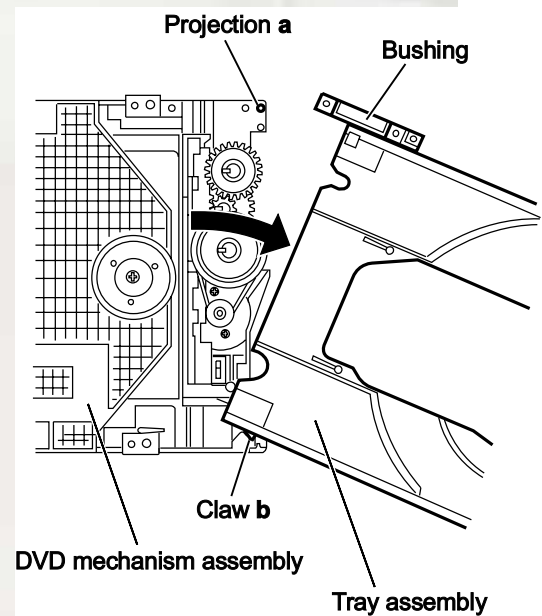

Fig.3
- (3) Remove the bushing of the tray assembly from the projection **a** on the DVD mechanism assembly and move the tray assembly in the direction of the arrow. (See Fig.3.)
- (4) Remove the claw **b** of the tray assembly from the DVD mechanism assembly and take out the tray assembly. (See Fig.3.)